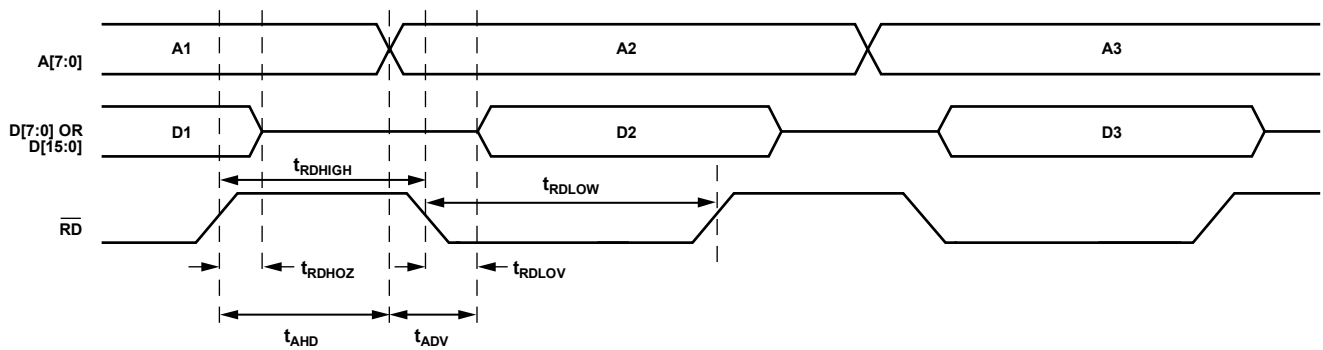

Figure 46. Parallel Port Read Timing Diagram
**Table 12. Parallel Port Read Timing (See Figure 46)**